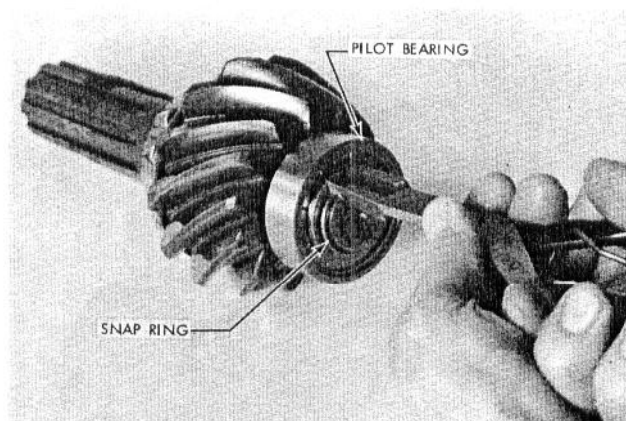

Fig. 56 - Pilot Bearing Snap Ring Removal or Installation
4. Remove the pilot bearing retaining ring, as shown in Fig. 56.
3. Install the pilot bearing snap ring, as shown in Fig. 56.